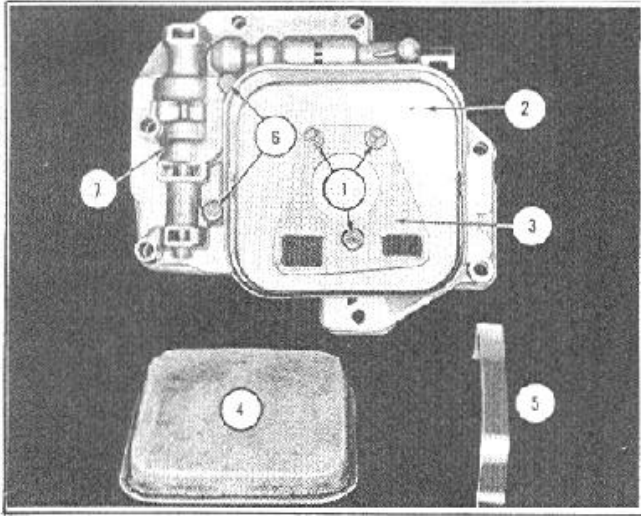

FIGURE 62
**CAUTION:** Selector valve (2) should not be moved out of its normal operating range.
1. Place the valve block assembly on a clean lintless cloth and remove the oil screen retainer (5), Figure 62,